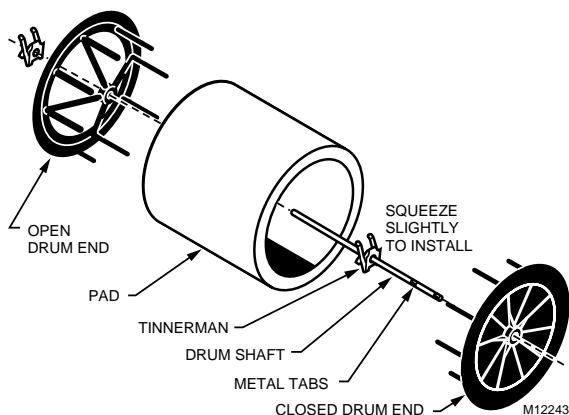

Fig. 6. Drum assembly parts.
7. Refer to Fig. 6 to disassemble the drum.